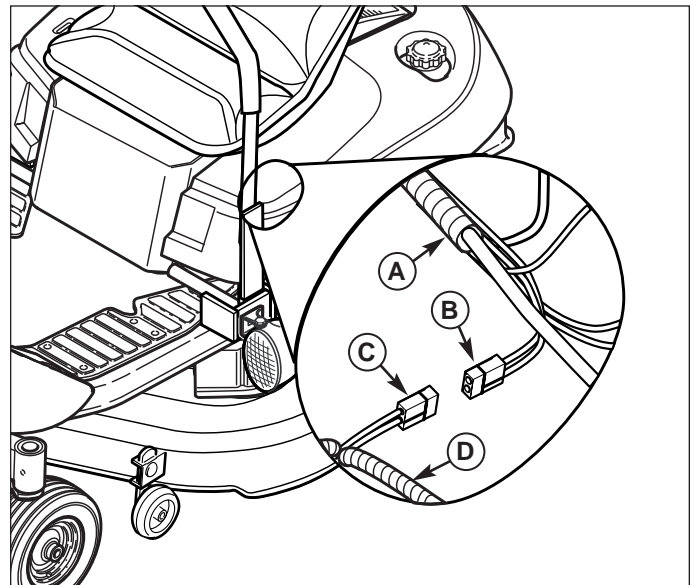

Figure 5. Main Power Wire Connections
11. Locate accessory connector (B, Figure 5) in the main wire harness (A) located on the left side of engine compartment.
12. Connect the light harness connector (C, Figure 5) to the accessory connector (B). Make sure the connectors are joined completely.